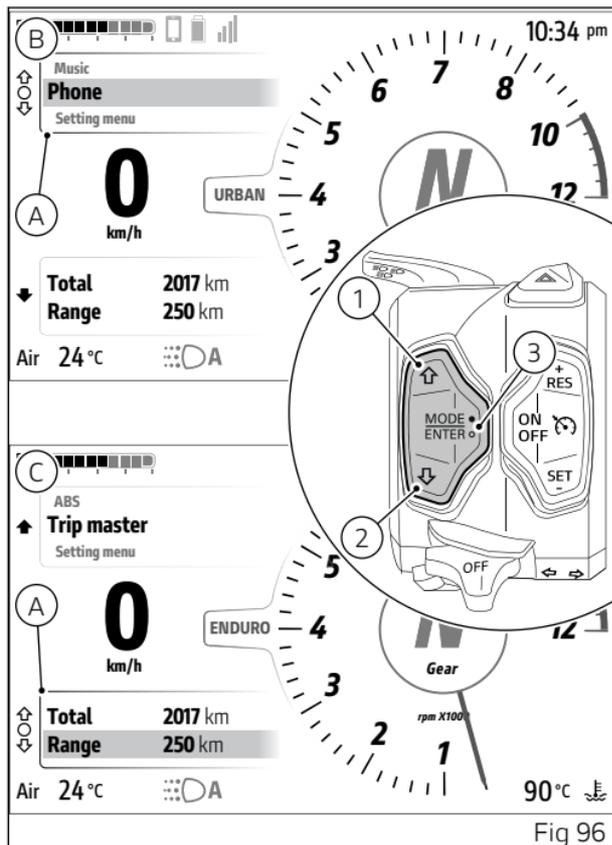

Fig 96
- if "Interactive menu" is currently selected, long press and hold button (2, Fig 96) to move the selection to Info display (C, Fig 96);
- if "Info display" is currently selected, long press and hold button (1, Fig 96) to move the selection to "Interactive menu" (B, Fig 96).